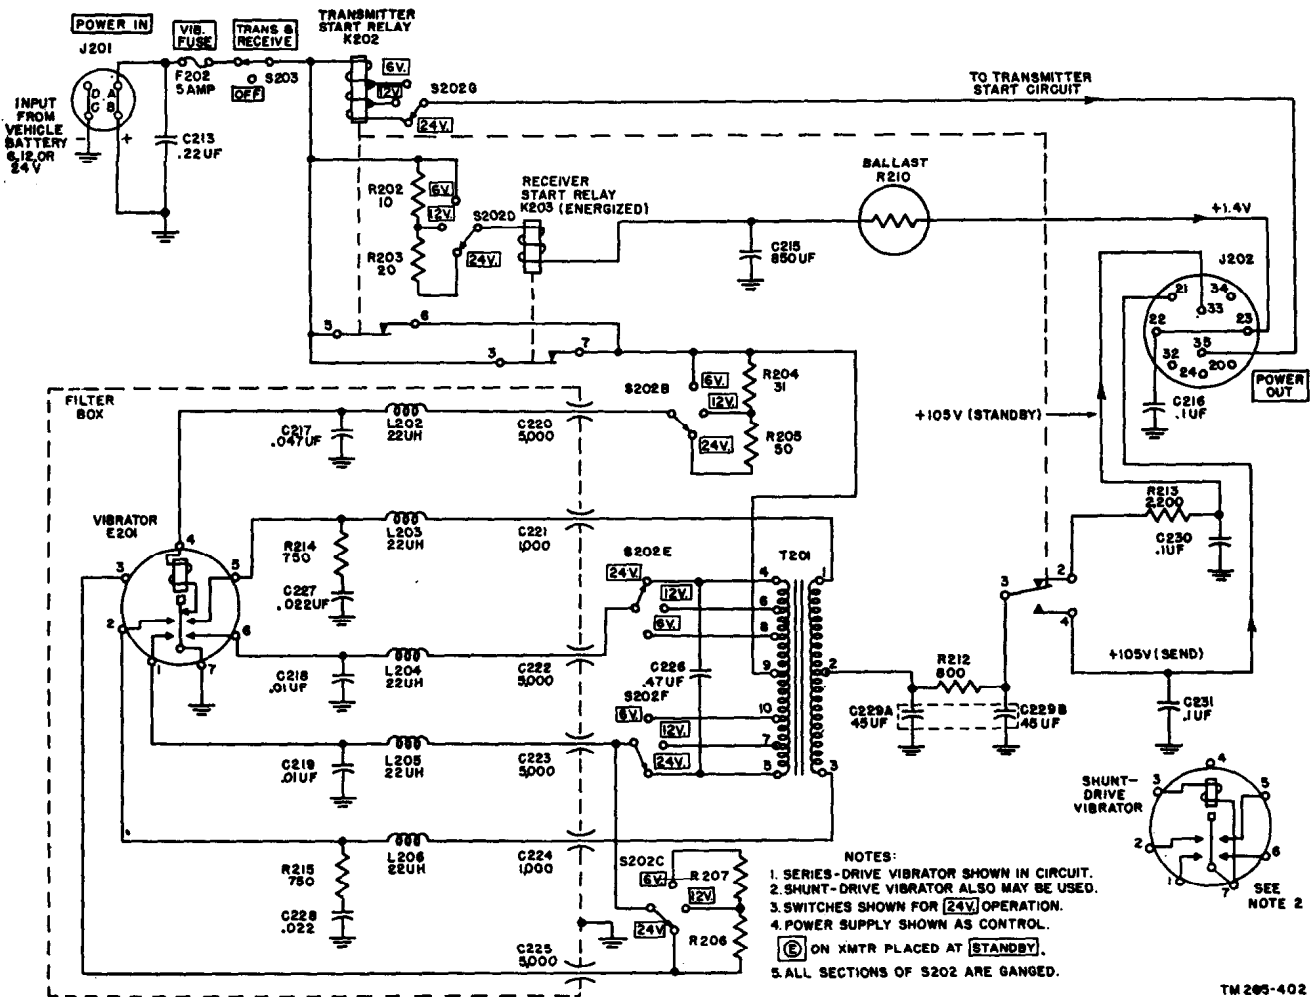

Figure 103. Dynamotor-Power Supply DY-88/GRC-9X vibrator and voltage selector switch S202, simplified schematic diagram.
148. Fuses and Switches of Dynamotor-Power Supply DY-88/GRC-9 (fig. 103)
149. Receiver Filament Supply of Dynamotor-Power Supply DY-88/GRC-9 (fig. 103)
150. Receiver Plate and Screen Supply of Dynamotor-Power Supply DY-88/GRC-9 (fig. 103)
a. *Transmitter Start Relay.* When control Ⓢ is turned to the SEND position, transmitter start relay K202 is energized and contacts 11 and 12 close to apply power to dynamotor start relay K201. Voltage selector switch S202G (fig. 103) permits the relay to operate from a 6-, 12-, or 24-volt battery.
152. Transmitter Plate and Screen Supply of Dynamotor-Power Supply DY-88/GRC-9 (figs. 103 and 104)